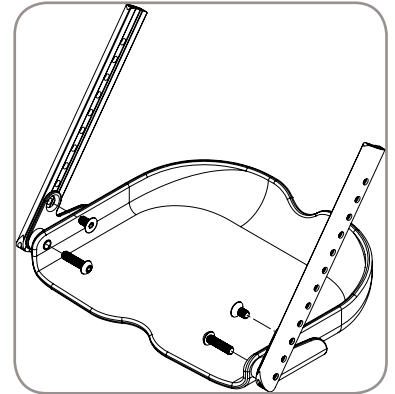

Figure 17
4. Reinstall bolts in lowest position on footbed extensions as shown in Figure 17.